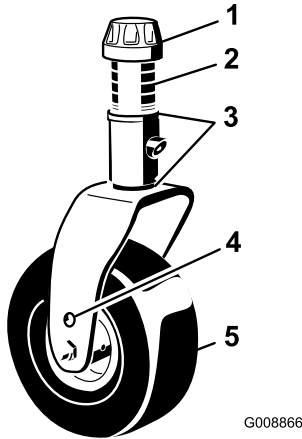

Figure 78
1. Remove the tensioning cap from the spindle shaft and slide the spindle out of the castor arm (Figure 78). Reposition the shims, as required, to raise or lower the castor wheel until the cutting unit has the correct pitch.